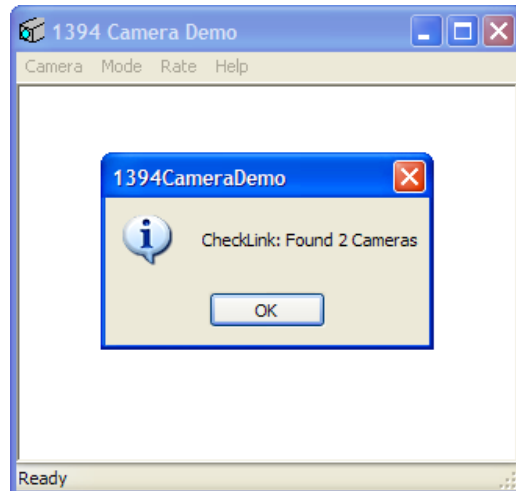

Figure 3.3
- c. A dialog shows up and states “Found 2 Cameras”. Press OK to continue (**Figure 3.3**). If “Found 0 Cameras”, go to step 3.